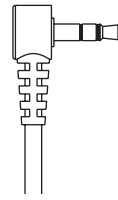

Figure 1
3. Insert the leak sensor plug (Figure 1) into the leak sensor receptacle on front panel (Figure 2).
2. No water flow from one hose - (either Hot or Cold): GREEN LED: ON YELLOW LED: ON RED LED: OFF / FAINT BLINK (Blink Every 3 Seconds)	1. Service strainers on washing machine hoses. 2. Service strainers on IntelliFlow® (see Figure 1). Caution prior to servicing strainers, first remove power to IntelliFlow® by unplugging, then shut off both hot and cold water supply to IntelliFlow®. <div style="text-align: center;">  <p>Strainer</p> <p>O-Ring</p> </div> <p style="text-align: right;">Figure 1</p>